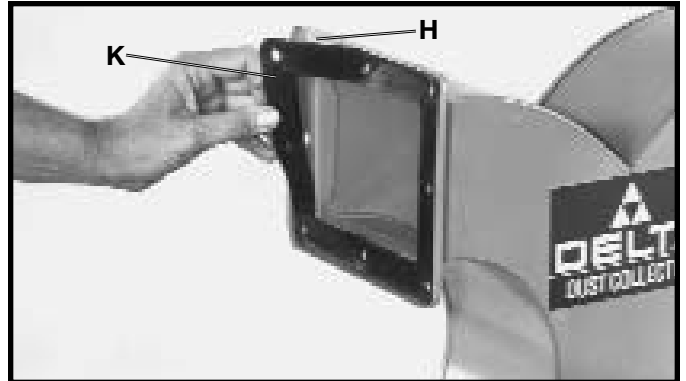

Fig. 14
7. Apply a bead of silicone sealant around flange of chute (H) Fig. 14. Align holes in eight-hole gasket (K) Fig. 14, with mounting holes in chute (H) and press gasket (K) onto flange as shown.